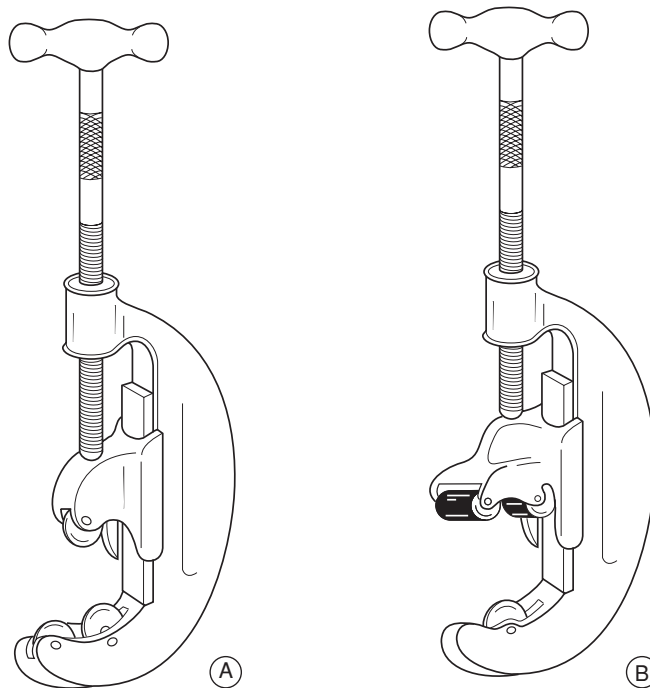

Figure 7
(19) In the space provided illustrate a flat dresser. (Page 51.)
(20) Give the name of each of the two pipe cutters, illustrated in Figure 7, used to cut low carbon steel tube. Each has an advantage over the other. State what this advantage is. (Page 49.)